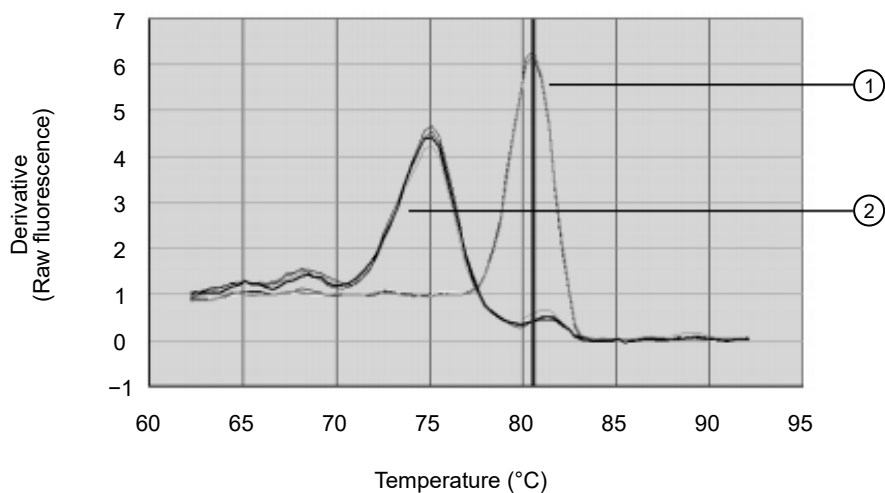

Figure 13 Melt curve analysis confirming that product in NTC wells has a melting temperature different from the specific product
**Note:** In the example shown in Figure 13 on page 32, the melting temperature of the product generated in the absence of template is lower than the melting temperature of the specific product generated with template. This variation is typical of primer-dimer formation, and it indicates that lower primer concentration may provide optimal results.